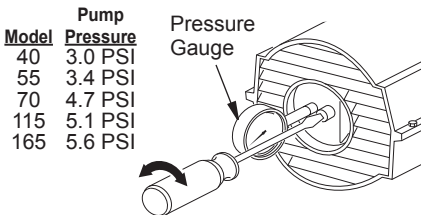

Figure 18 - Adjusting Pump Pressure (70 Model Shown)
4. Adjust pressure. Turn relief valve to right to increase pressure. Turn relief valve to left to decrease pressure. See specifications correct pressure for each model (see Figure 18).